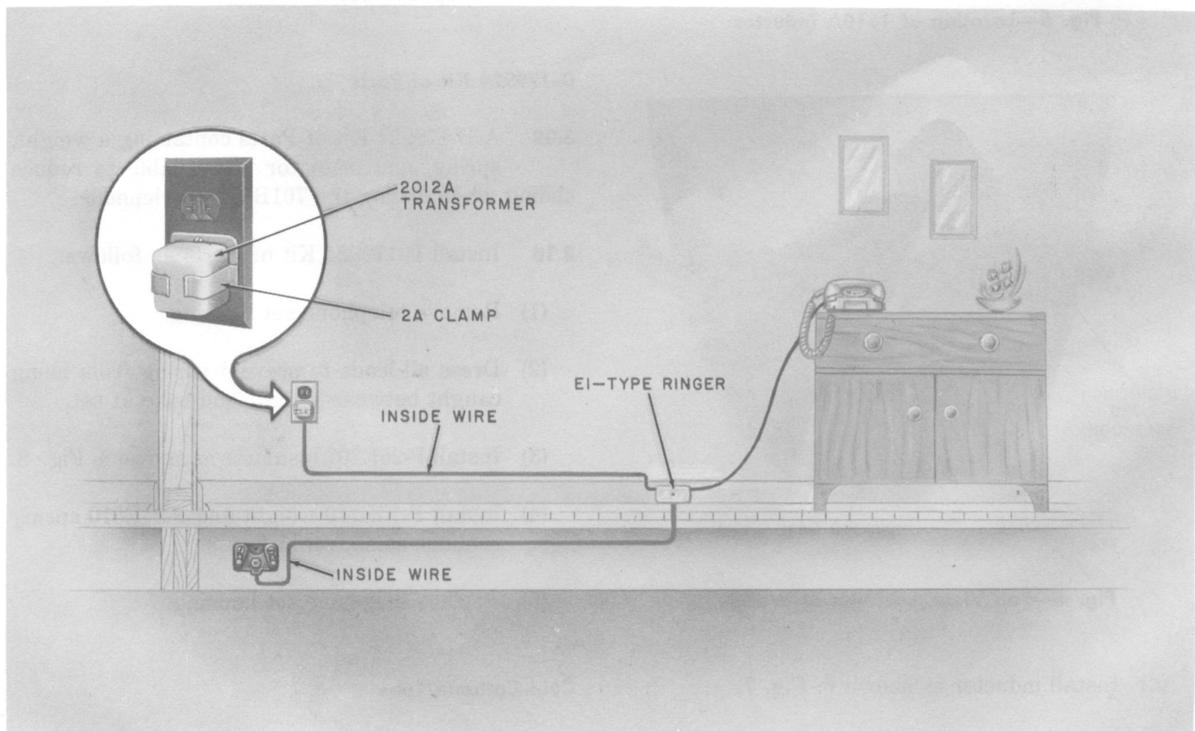

Fig. 4—Typical Installation of 701B (MD) Telephone Set
3.04 When an external ringer is required, install an E1-type with each 701B (MD) telephone set (Fig. 4).